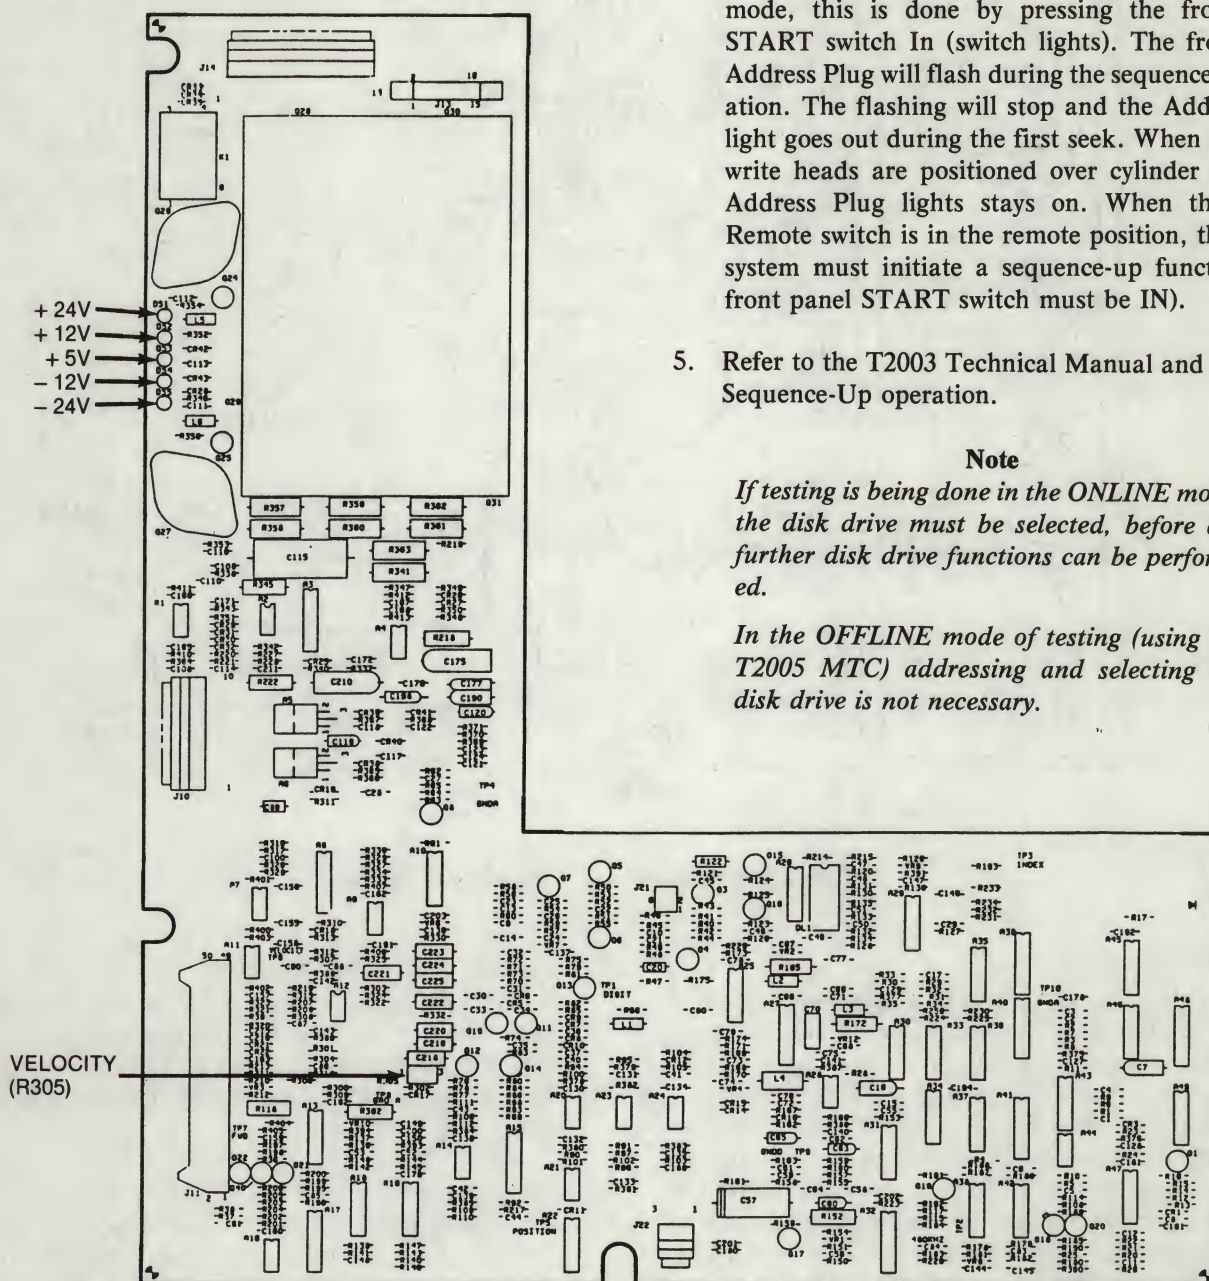

Figure 4-2. DC Power LED's
- Turn power on to the unit and verify that the DC power LED's on the Servo Control Printed Wire Board (PWB) are illuminated. See Figure 4-2.
- d. If ONCYLINDER does not stay in active for 49 ± 1 millisecond then adjust potentiometer, R305, on the Servo Control PWB. See Figures 4-2 and 4-5.